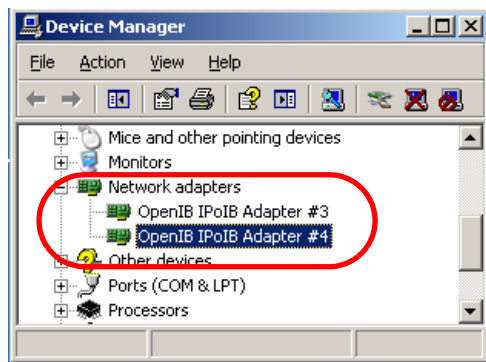

Figure 4-48 IP over InfiniBand adapters in Device Manager
4. Repeat steps 1 through 3 for the second IPoIB adapter. When the driver installation is complete, you should see two entries for the IPoIB in device manager under Network Adapters in Device Manager as shown in Figure 4-48.